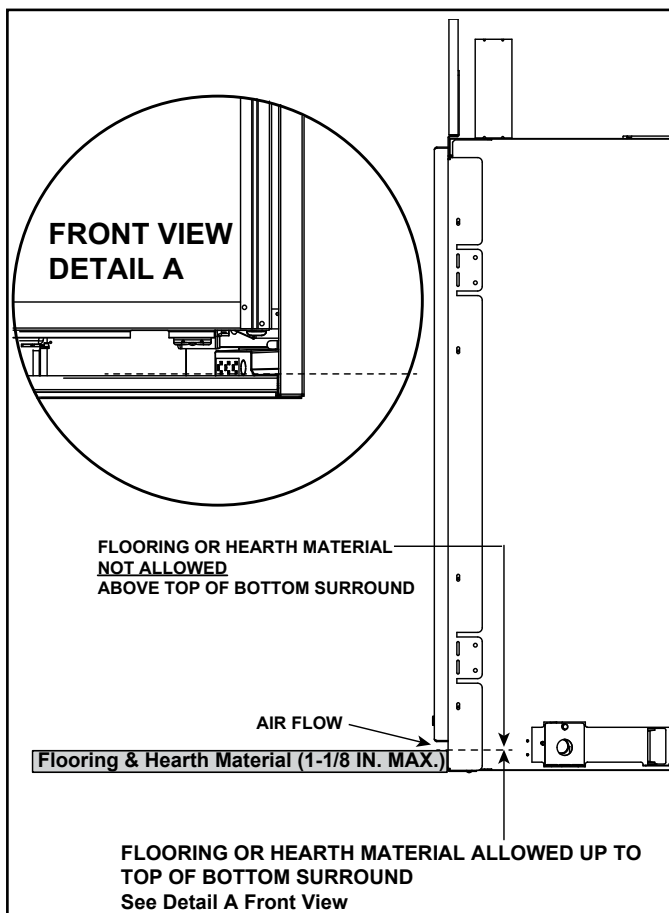

Figure 3.15 Flooring & Hearth Material Allowed
- Flooring and hearth material is allowed up to, but not above, the top of the bottom surround in order to allow for proper air flow from appliance. See Figure 3.15.